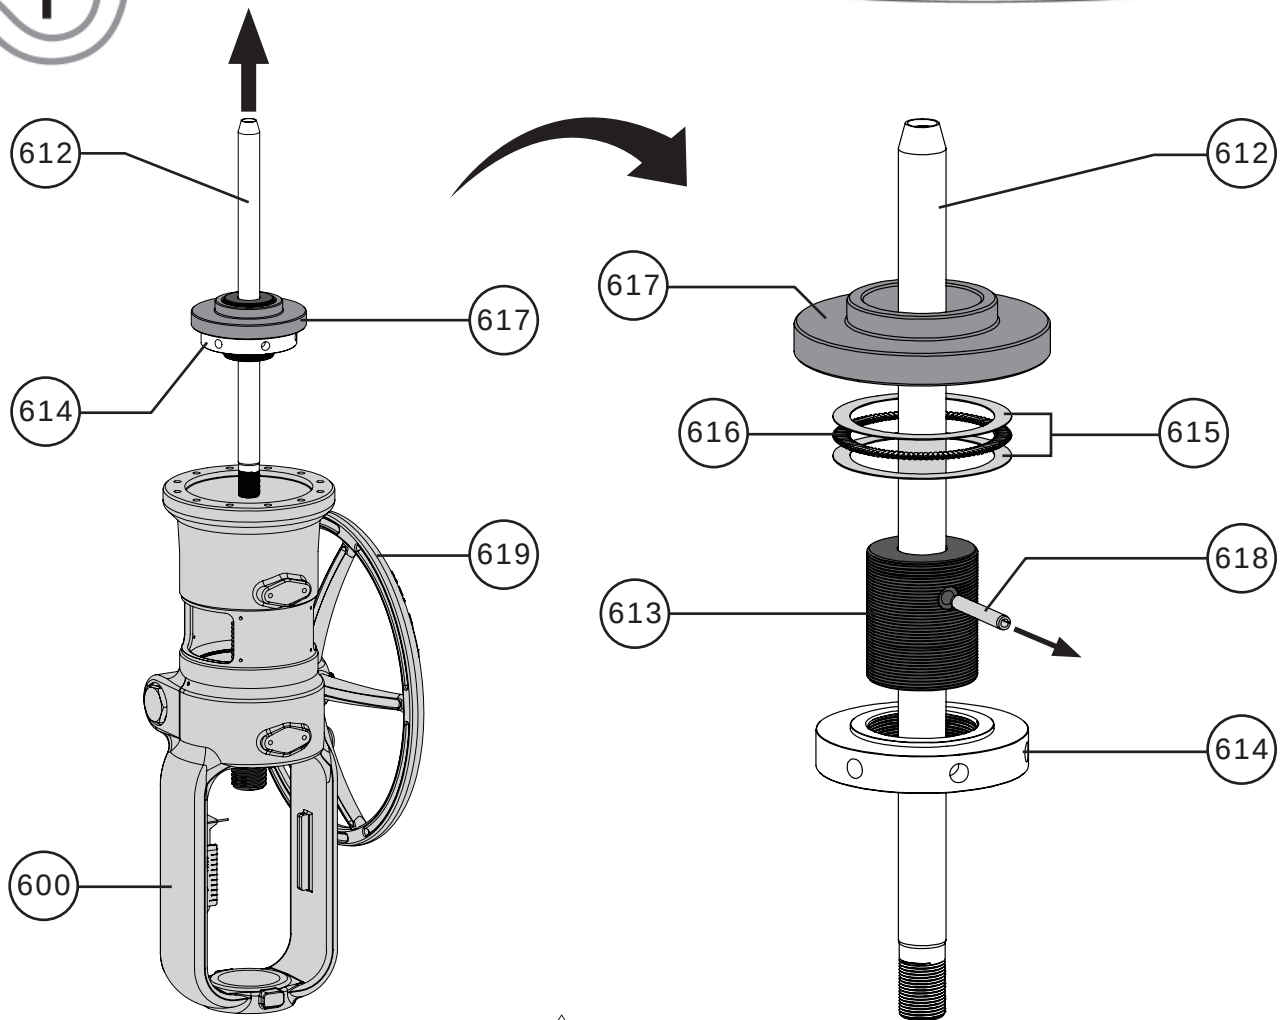

Figure 80 Actuator Stem Assembly Removal and Disassembly
- 15 Remove the actuator stem (Key 612) by pulling it up and out of the yoke (Key 600). **NOTE:** The spring seat (Key 617), spring adjuster (Key 614), thrust bearing (Key 616), spring adjuster screw (Key 613), and roll pin (Key 618) are all attached to the actuator stem and will be removed along with it. Be careful when pulling the actuator stem assembly out the yoke. Refer to Figure 80.
- 16 If necessary, separate the actuator stem assembly (Keys 612, 613, 614, 615, 616, 617, 618) by removing the spring seat (Key 617) and thrust bearing (Keys 615 & 616). Then, using a punch, remove the roll pin (Key 618) and separate the spring adjuster (Key 614), spring adjuster screw (Key 613), and actuator stem (Key 612). Refer to Figure 80.